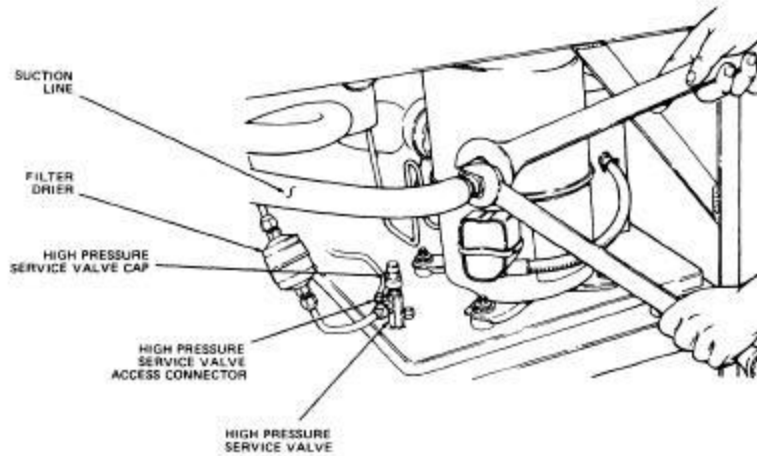

Figure 11-17. Disconnect Suction Line from Compressor
- a. Disconnect the suction line from the compressor using an open end wrench (1-3/8 inch). Figure 11-17.